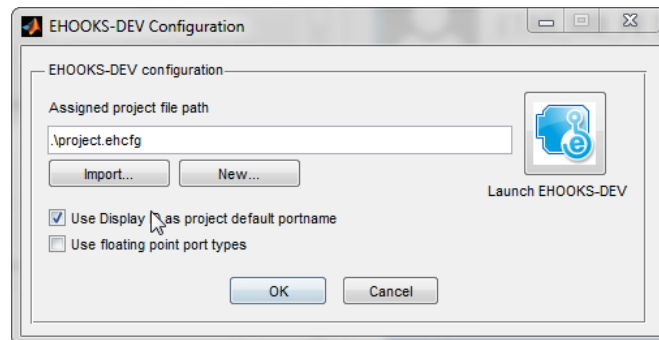

Figure 10.3: EHOOKS Configuration Block Simulink Interface
**double-click** it. This will launch an initial Simulink interface (see figure 10.3) to manage which EHOOKS configuration file is associated with the configuration block.